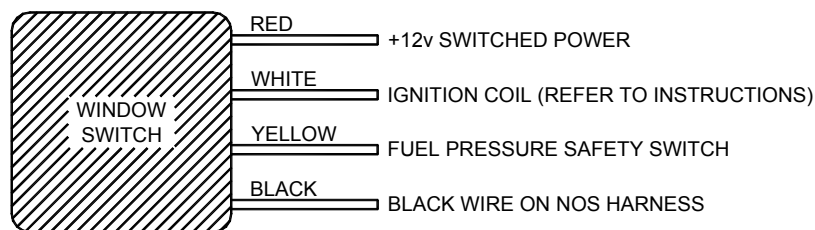

Figure 11
2. The window switch needs to be wired properly. Following the schematic and directions in Figure 11.